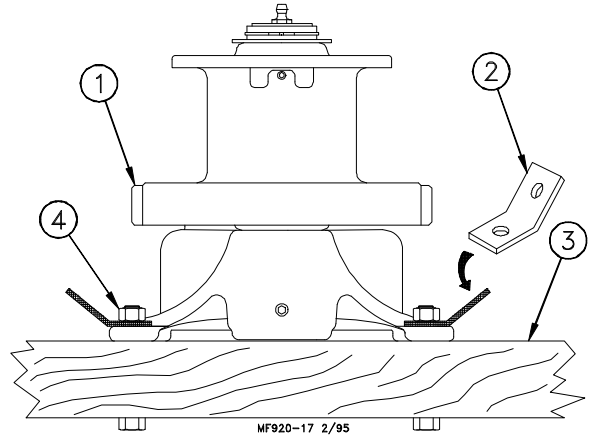

Figure 6. Winch Mounting Diagram (End View)
1. Bolt the Power Winch, fully assembled, to a 2x8 (50x200 mm) board that will span at least 3 rafters. The brake mechanism will protrude on one side. For feeder lines over 350 feet (106 m), install a 2985 Cable Hook between the mounting bolt and Power Winch frame, as shown in Figure 6.
For loop suspension systems, install a 2985 Cable Hook between the mounting bolt and Power Winch frame, as shown in Figure 6.